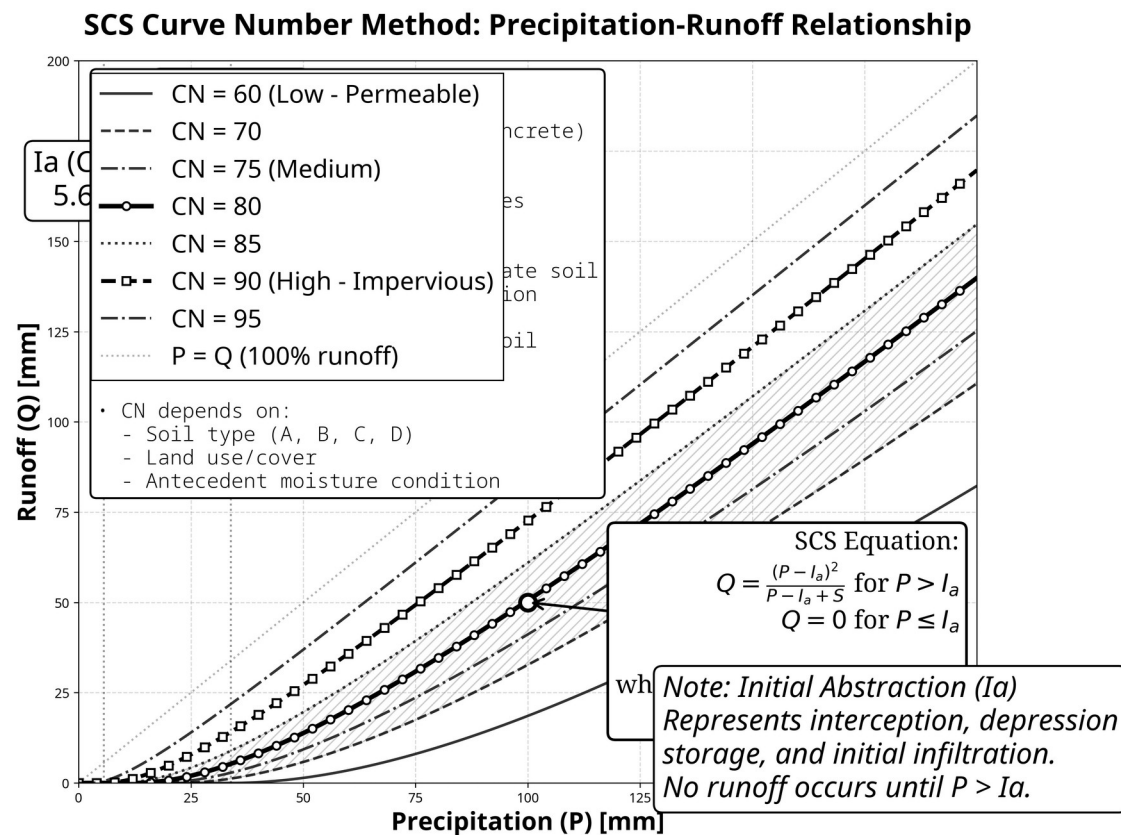

Figure 4.1: SCS Curve Number Runoff Chart
**Figure 4.1:** SCS Curve Number runoff chart showing the non-linear relationship between precipitation (P) and runoff (Q) for different CN values. Higher CN values (more impervious